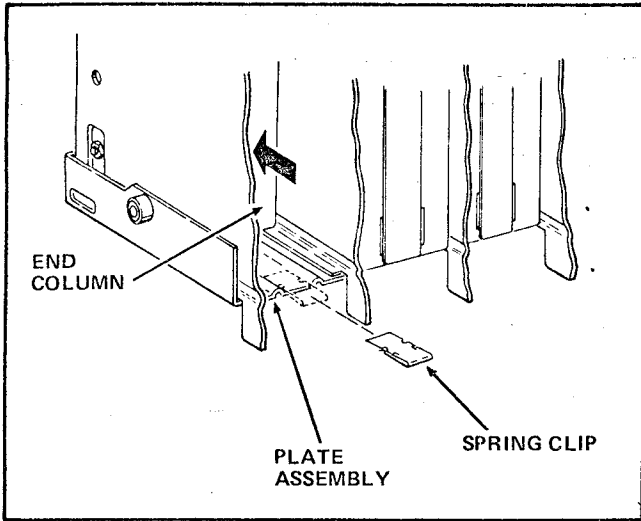

FIGURE 7
3. Remove the Spring Clip from the Plate Assembly of the Upper Magazine. See Figure 7.
3. Install the Spring Clip on the Plate Assembly of the Upper Magazine. See Figure 7.